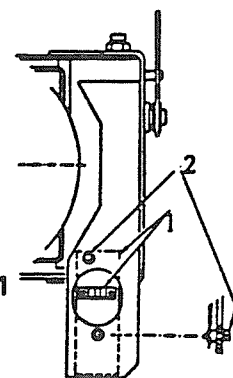

FIG. 41
13.6 CAPTEUR PRESENCE RUBAN ET DETECTION SOUDURE (FIG.41)